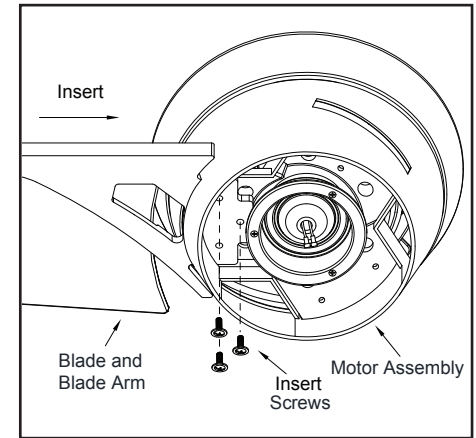

Figure 13
1. Attach the blade to the the fan motor assembly, align the screw holes in the blade with the screw holes above and under the motor assembly, and secure the blade with blade arm screws. (Figure 13)